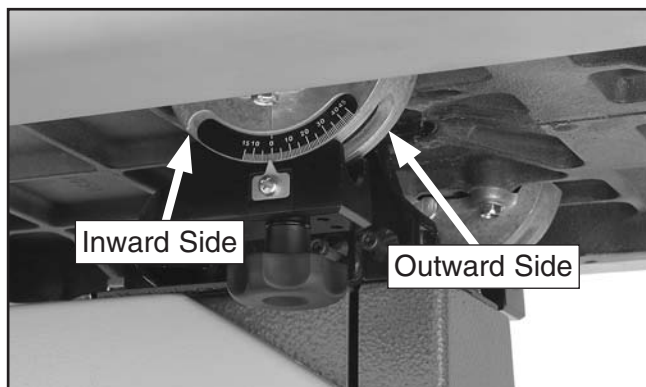

Figure 57. Sides of table trunnions to grease.
2. Wipe the old grease off the bearing surfaces of the table trunnions. Start with the outward side of the table trunnions (**Figure 57**) when the table is at 0°, then tilt the table to 45° and wipe off the inward side. The old grease will be contaminated with sawdust, so you want to remove as much of it as you can.